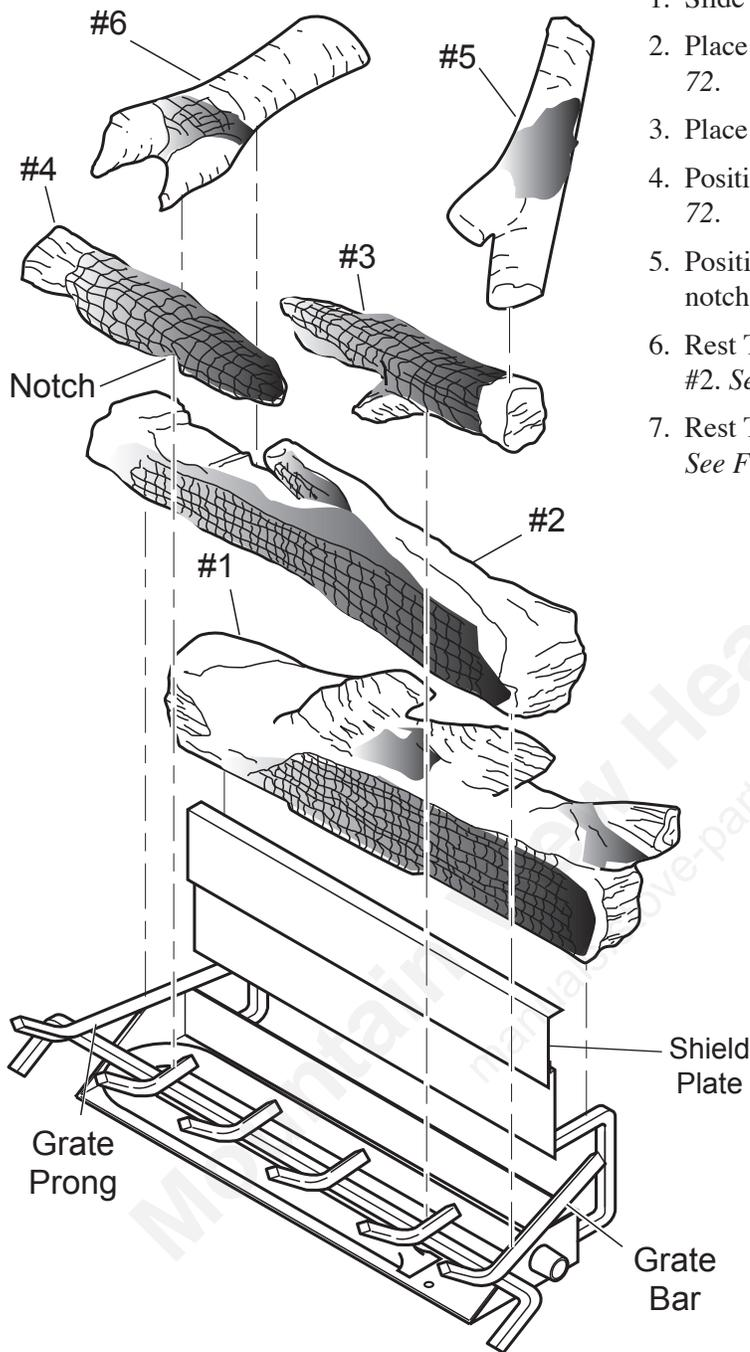

**Figure 70 - Placing Left Crossover Log (#7)**
7. Place Left Crossover Log #7 on Log #2 and Log #5. See Figure 70.